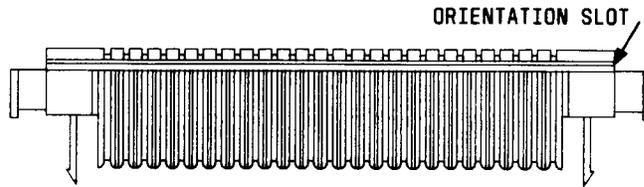

Fig. 13—645058 Amp Cap Showing Orientation Slot
5.03 The cap used with this connector is shown in Fig. 13. It is not symmetrical and, therefore, must be aligned with the orientation slot facing out, when used with the connector-base.